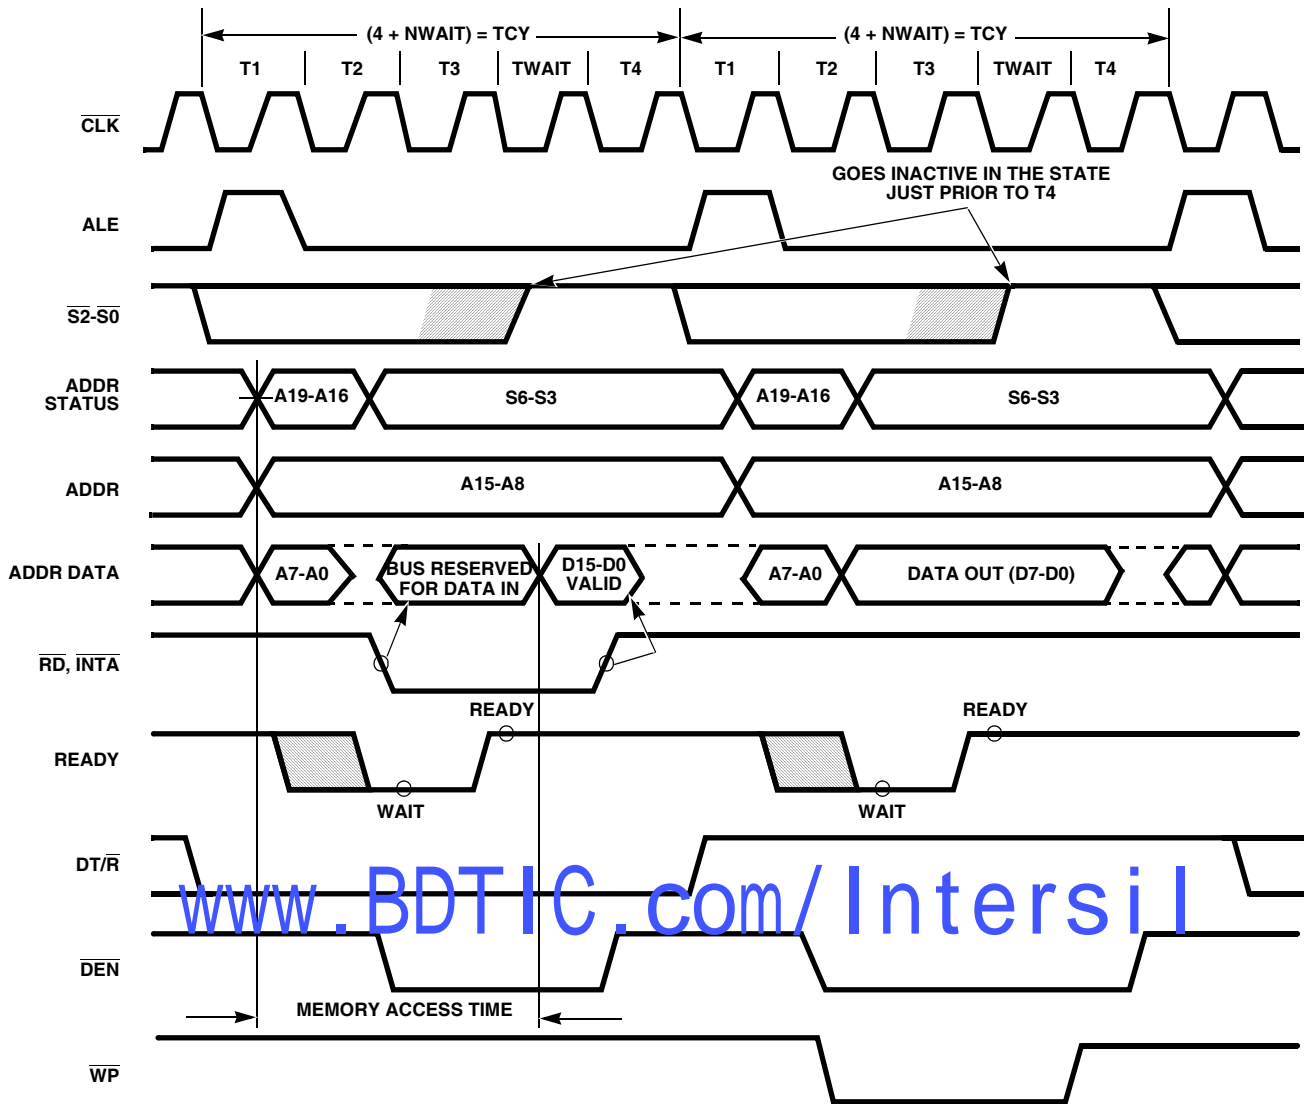

FIGURE 5. BASIC SYSTEM TIMING
Each processor bus cycle consists of at least four CLK cycles. These are referred to as T1, T2, T3 and T4. (See Figure 5). The address is emitted from the processor during T1 and data transfer occurs on the bus during T3 and T4. T2 is used primarily for changing the direction of the bus during read operations. In the event that a "Not Ready" indication is given by the addressed device, "wait" states (TW) are inserted between T3 and T4. Each inserted "wait" state is of the same duration as a CLK cycle. Periods can occur between 80C88 driven bus cycles. These are referred to as "idle" states (TI), or inactive CLK cycles. The processor uses these cycles for internal housekeeping.
The read cycle begins in T1 with the assertion of the address latch enable (ALE) signal (see Figure 5). The trailing (low going) edge of this signal is used to latch the address information, which is valid on the address data bus (AD0-AD7) at this time, into the 82C82/82C83 latch. Address lines A8 through A15 do not need to be latched because they remain valid throughout the bus cycle. From T1 to T4 the $\text{IO}/\overline{\text{M}}$ signal indicates a memory or I/O operation. At T2 the address is removed from the address data bus and the bus is held at the last valid logic state by internal bus-hold devices. The read control signal is also asserted at T2. The read ($\overline{\text{RD}}$) signal causes the addressed device to enable its data bus drivers to the local bus. Some time later, valid data